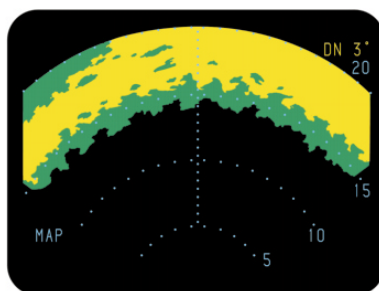
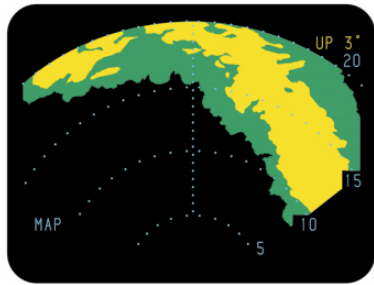

Figure 1
Figure 2
4. While flying level (0 degree pitch, 0 degree roll), adjust the tilt control for a video pattern shown in Figure 1.
6. Turn the STAB on. If the pattern appears as Figure 2 or 3, the RDR 2060/2100 can compensate for this using ROLL TRIM. Adjust the ROLL TRIM with a small screwdriver through access on radar indicator controller until Figure 1 is achieved.
8. For perfect stabilization, the pattern shown in Figure 1 should not shift. The information displayed will change, however, the inner extremity should remain coincident with the third range mark.
9. If the pattern shifts as shown in Figure 2, increase the tilt angle until the edge of the video pattern reaches the same position as the center was before the roll maneuver. Note the new position of the tilt control. Proceed to step 11.
13. Check pitch performance as follows: Re-establish Figure 1 by flying straight and level. Momentarily pitch the aircraft up 5 degrees (no more than 10 to 20 seconds to minimize altitude change). If the inner ring of clutter moves further out in range, readjust the tilt downward until the pattern returns as it was before the pitch maneuver. Note the tilt change. If the clutter moved inward, adjust the tilt upward and note the change. If the tilt change is greater than 2 degrees, the system should be ground checked to recalibrate the pitch.